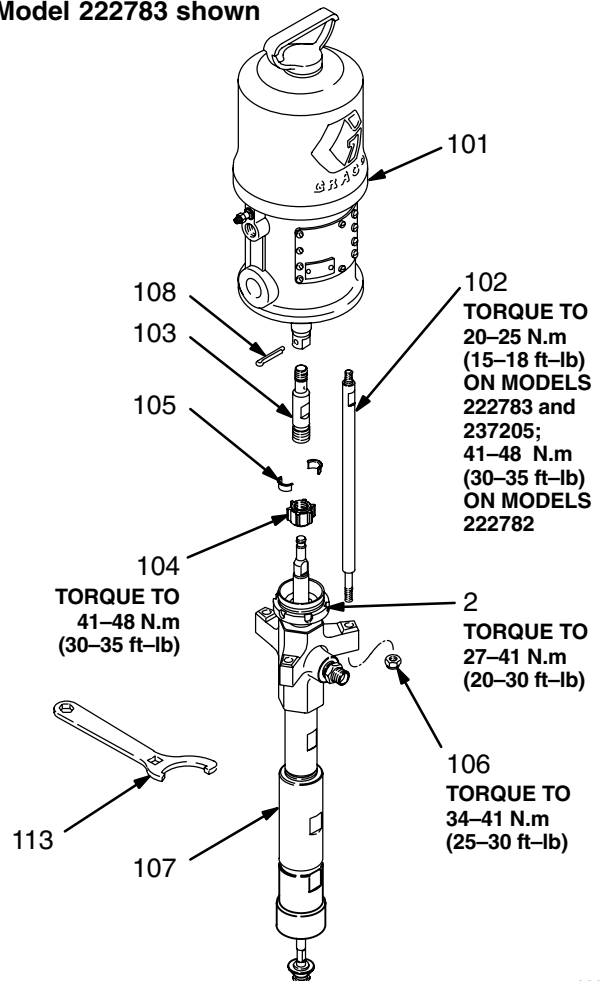

Fig 3
2. Disconnect the air hose. Hold the fluid outlet fitting (7) with an adjustable wrench to keep it from being loosened while you disconnect the fluid hose. Remove the pump from its mounting. Note the relative position of the pump's fluid outlet to the air motor's air inlet.
3. Models 222782 and 222783: Using an adjustable wrench, unscrew the coupling nut (104) from the connecting rod (103). Remove the coupling collars (105). Take care not to lose or drop them. See Fig 3.
1. Orient the pump's fluid outlet to the air motor's air inlet as was noted in step 2 under **Disconnecting the Displacement Pump**. Position the displacement pump (107) on the tie rods (102). See Fig 3.